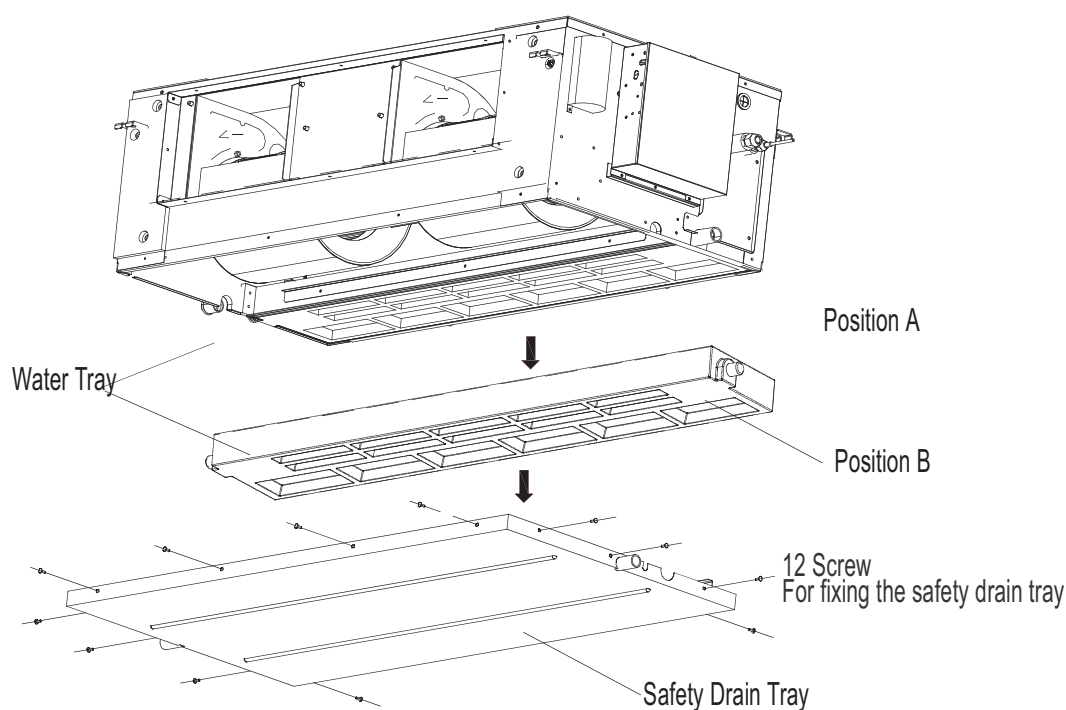

Fig.4-16
2. Remove the all 11 screw from fixed Safety Drain Tray, and then take off the tray as figure showed in Fig.4-16.
3. Take off the tray along the direction of the arrow show in Fig.4-16.